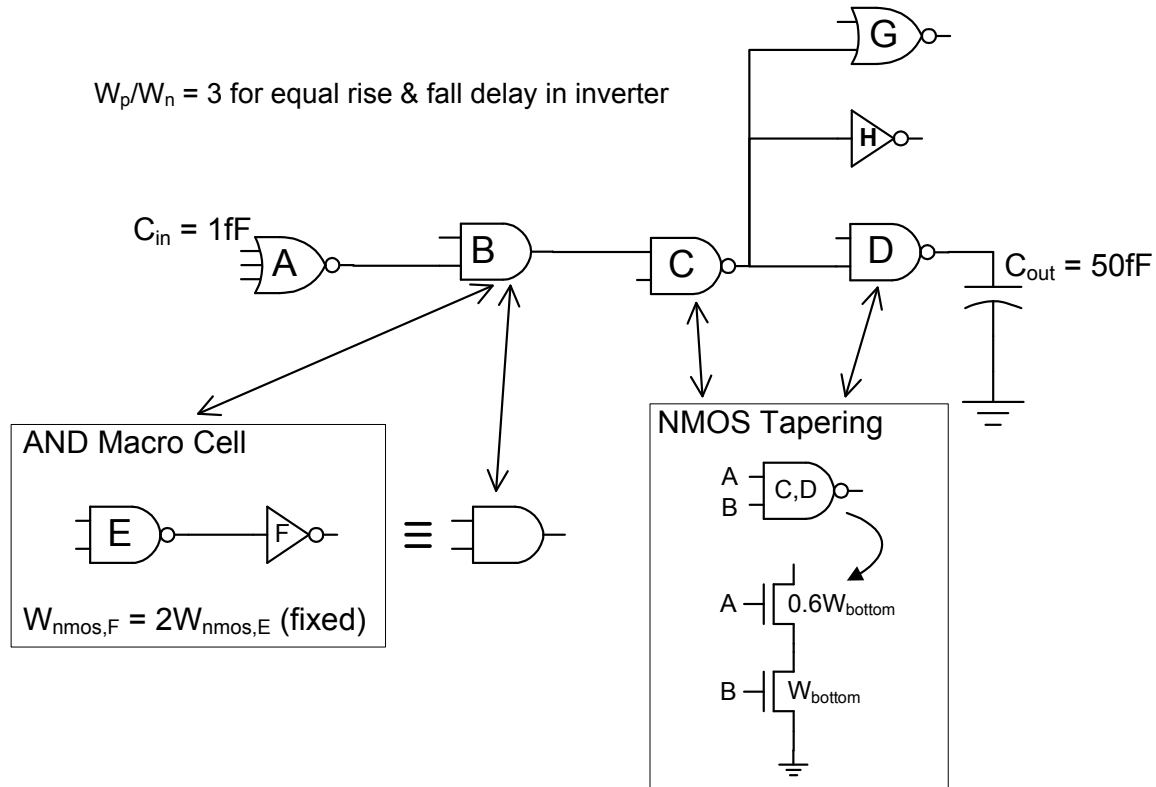

Figure 1. Circuit for Problem 1.0.
Consider the circuit shown in Figure 1. Assume that the effective P/N ratios of all gates is 3 and a P/N ratio of 3 in an inverter results in equal rise and fall delays. The intrinsic delay of an inverter $p_{\text{inv}} = 1\tau$. Assume that the branch gates G and H are sized for equal stage effort with their corresponding on-path gate, D (and they have the same total output capacitance). Note that the 2-input NAND gates, C and D, have tapered NMOS stacks while all other gates are *NOT* tapered (including the 2-input NAND gate within the AND macro cell). Finally, note that the inverter and NAND gate inside the macro cell have a fixed size ratio relative to each other.
1.2 (4 Points) Find the path effort, F , for the path shown in Figure 1 and calculate the minimum delay using optimal gate sizing. Add extra inverters to the circuit to minimize the delay, if needed (refer to Table 2). Make sure the functionality of the circuit does not change.